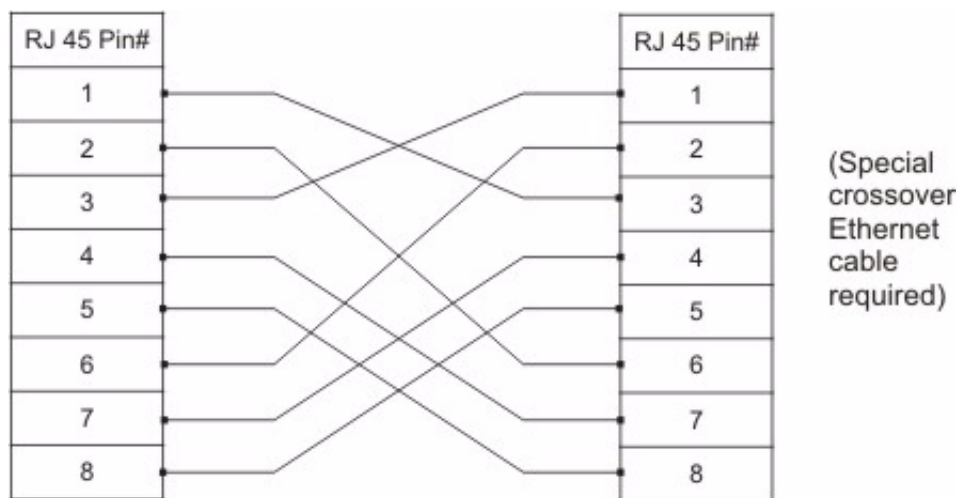
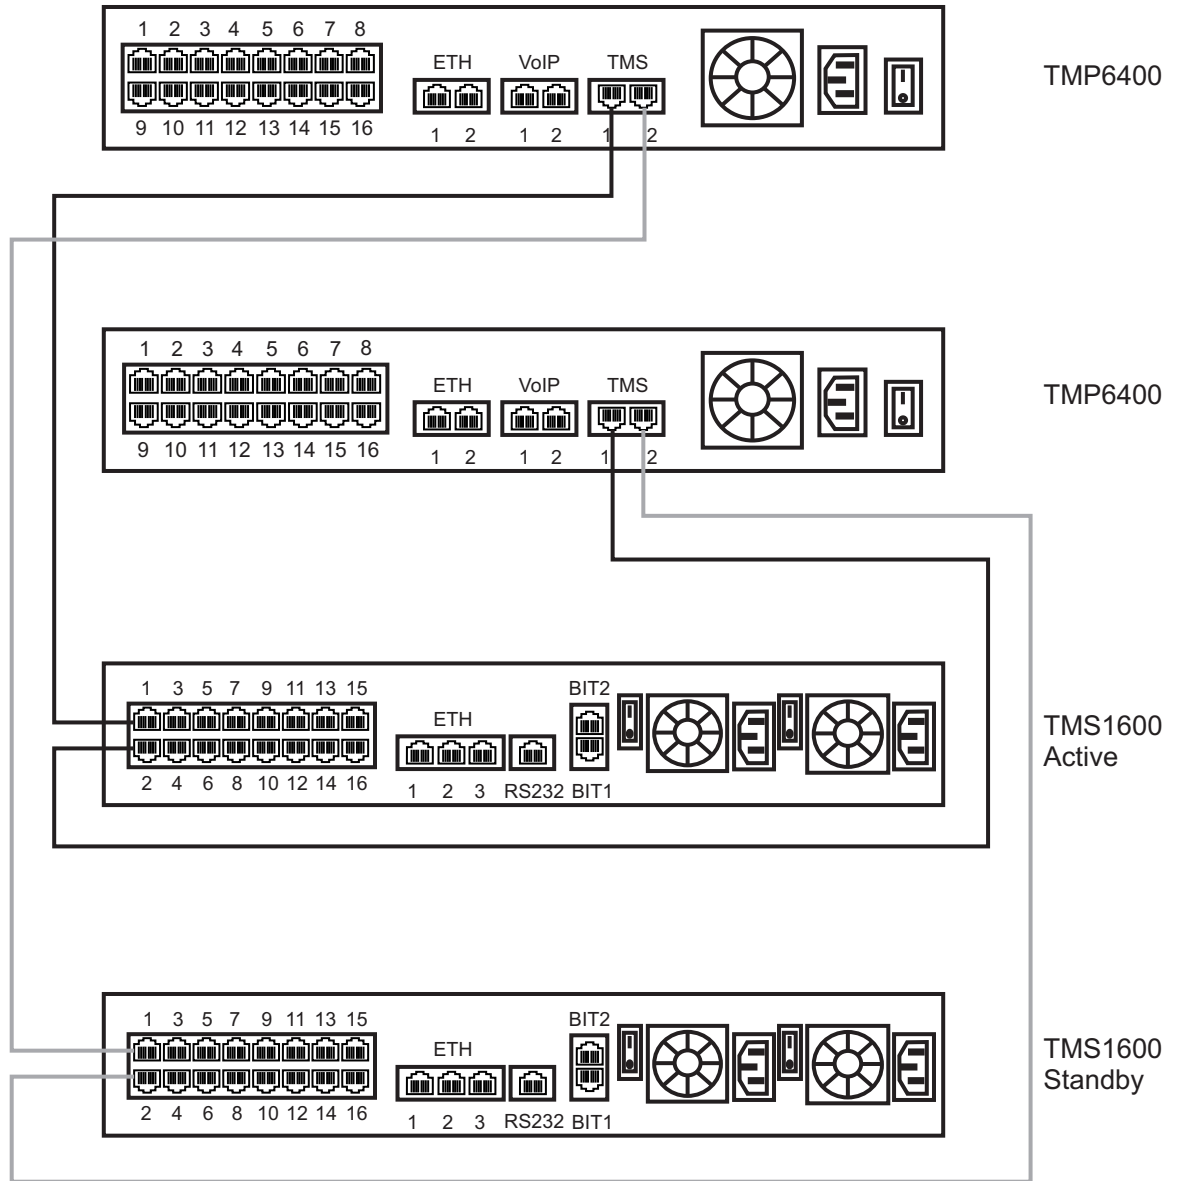

Figure 2.11 Ethernet Crossover Cable
Figure 2.12 Example of Interconnecting 2 TMP6400s to an active and standby TMS1600
The resources of the TMP6400s are made available to each other by the connection to one or optionally two TMS1600s, as shown in figure 2.12 on page 23. See figure 2.11 on page 22 for an Ethernet crossover wiring diagram.
1. Start with the TMP6400 at the topmost position of the equipment rack and connect a CAT7 shielded Ethernet crossover cable to TMS1 at the rear of the TMP6400 figure 2.12 on page 23. Connect the other end of the same CAT7 cable to the first port of the first TMS1600.
2. If your system employs a second TMS1600, connect a second CAT7 shielded Ethernet crossover cable to TMS2 at the rear of the TMP6400 figure 2.12 on page 23. Connect the other end of the same CAT7 cable to the first port of a second TMS1600.